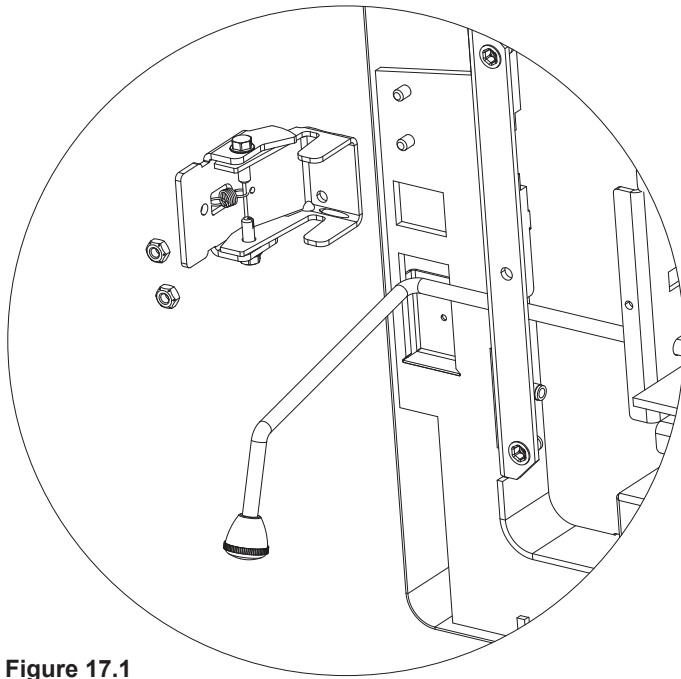

Figure 17.1
9. Install ARS latch by sliding latch assembly over 2 threaded studs protruding from the bottom on the left hand side of the appliance. Secure by using two nuts use 7/16 socket wrench (**Figure 17.1 on page 17**).